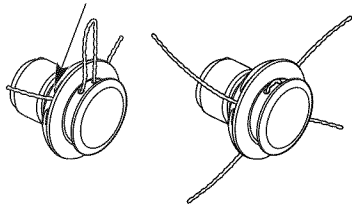

Fig. 28
- Push and/or pull the line so that the line is snug against the hub and is fully extended through the positioning tunnels. (Fig. 28)